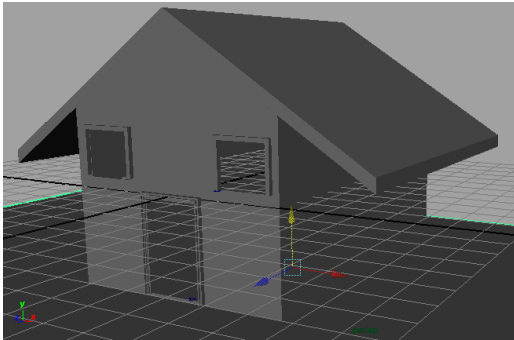
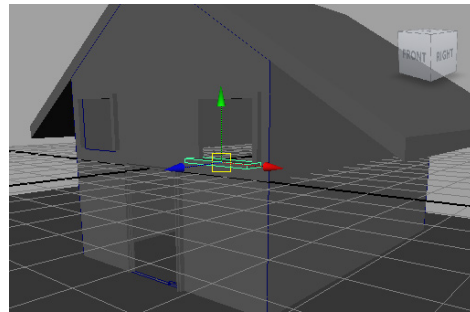

*Figure 3-128 Selected Isoparms displayed*
*Figure 3-129 Final roof created*
5. Select the isoparms of the roof 1 and the roof 2, as shown in Figure 3-128. Next, choose **Surfaces > Loft** from the menubar; a surface is created between the selected isoparms. Similarly, close all sides of the roof to get the output shown in Figure 3-129.